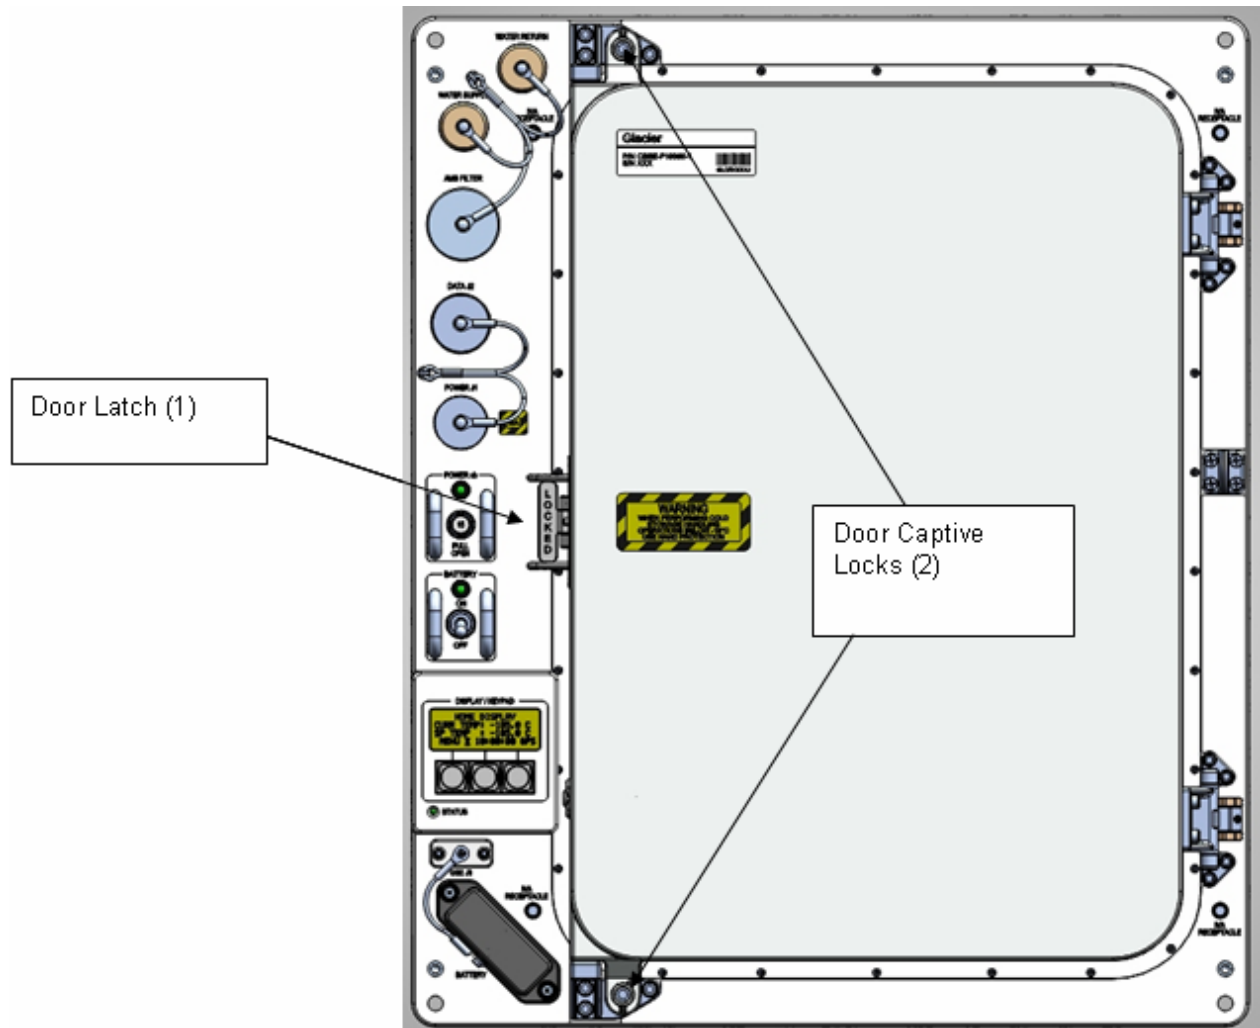

Figure 1. Glacier Configuration
- 1.1 Unlock Glacier Door Captive Locks (two) (3/16" Hex Head, 3/8" Drive, 1/4" to 3/8" Adapter, 1/4" Drive, 4" Extension, 1/4" Drive, Ratchet, 1/4" Drive) (see Figure 1)